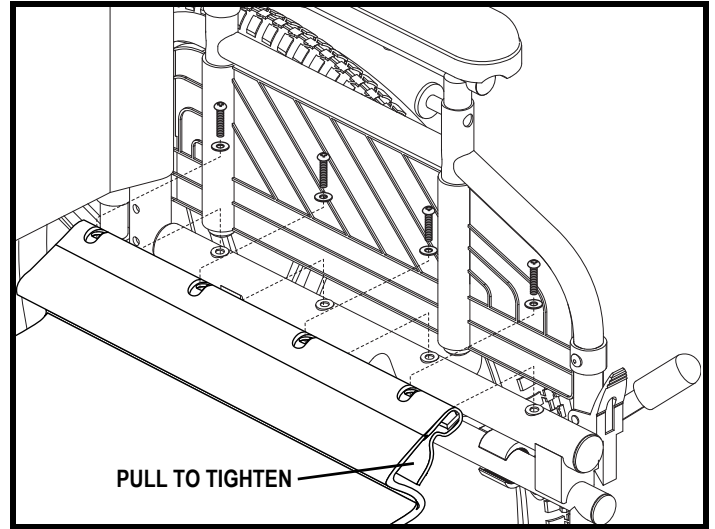

Figure 28. Seat Tension Adjustment
1. Loosen the screws that attach the seat to the side rail on the left side (side with hook and loop fastener). See **figure 28**.